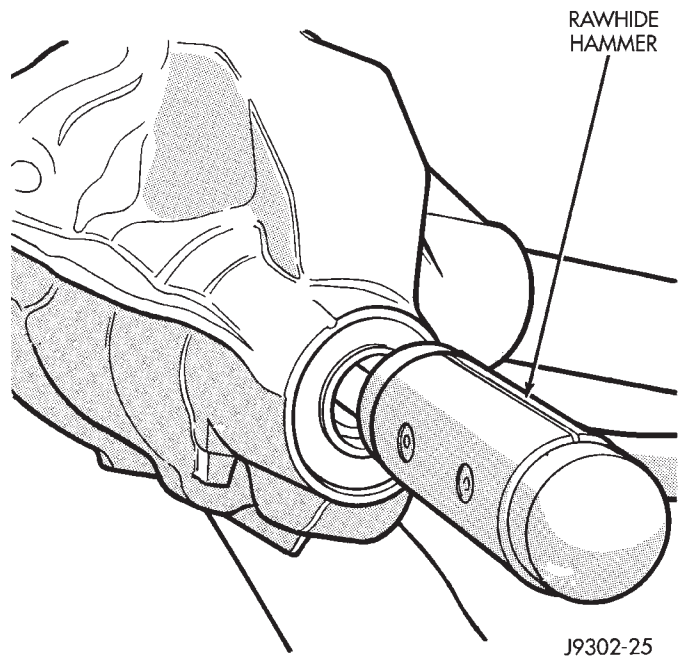

Fig. 13 Remove Pinion Gear
(11) Remove the pinion gear from housing (Fig. 13). Catch the pinion with your hand to prevent it from falling and being damaged.
(12) Remove collapsible spacer from pinion shaft.